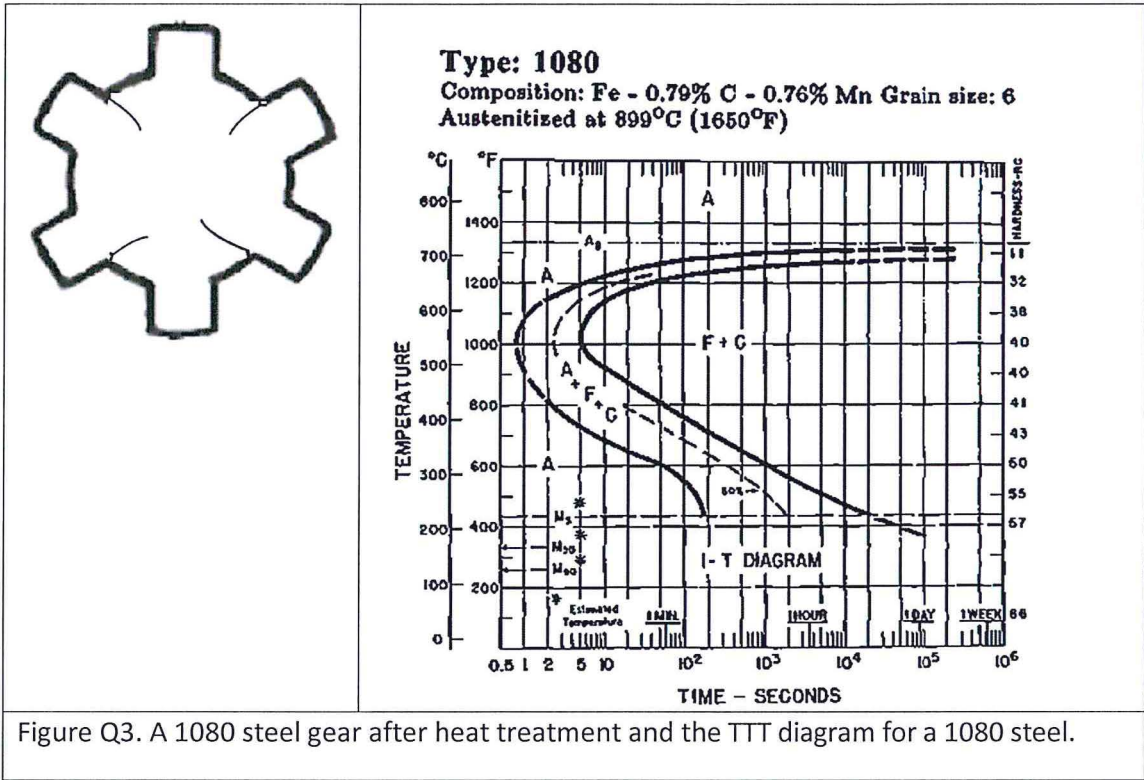

Figure Q3. A 1080 steel gear after heat treatment and the TTT diagram for a 1080 steel.
- (a) A batch of quenched and tempered steel gears was rejected by the customer because of surface cracks (see a gear after the heat treatment in Figure Q3). The gears were made of 1080 steel grade and quenched in water. With the aid of Time-Temperature Transformation Diagram in Figure Q3, suggest at least five ways to minimize the risk of cracking upon treatment. [15]